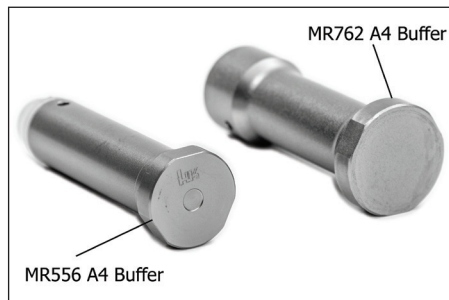

Fig. 29 – MR556 A4 and MR762 A4 Buffers
**⚠ WARNING** Ensure that only the proprietary HK buffer and recoil spring (buffer spring), also marked with red paint, are installed in the MR A4. Use of non HK buffers and recoil springs could result in cycling problems and affect the reliability of the MR A4 (Fig. 29).